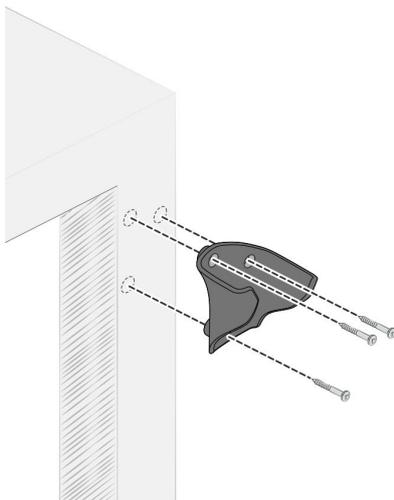

Fig. 102 Disassemble the handheld controller bracket
14. Loosen the three screws for the bracket counter-clockwise and remove the bracket from the table Fig. 102.